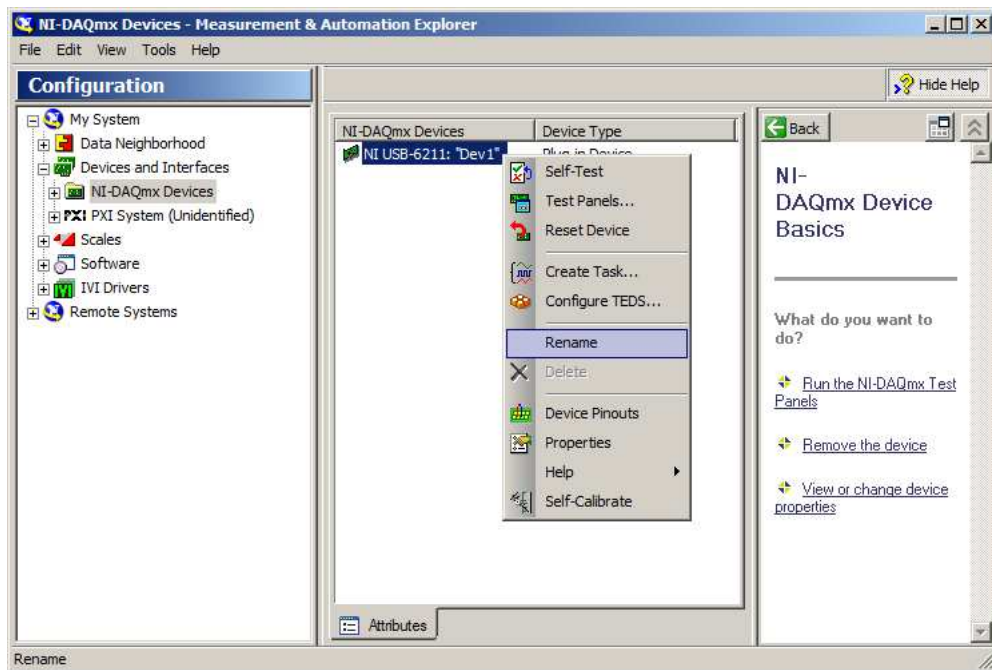

Figure 2.2: NI-DAQ Measurement & Automation Explorer, with menu options to rename a device and to perform a self test.
3. To configure and test the device, open the NI-DAQ Measurement & Automation Explorer application — see Figure 2.2.